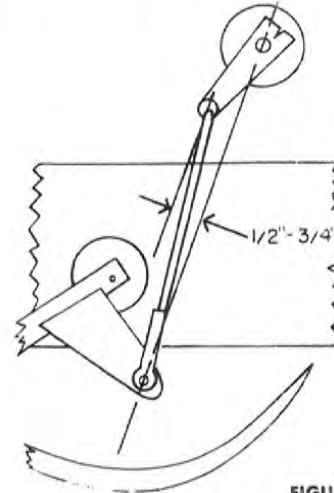

FIGURE 30A
- Rotate the knotter assembly until the needle yoke rod is  $\frac{1}{2}$ " to  $\frac{3}{4}$ " past a dead center line as shown in Figure 30A.